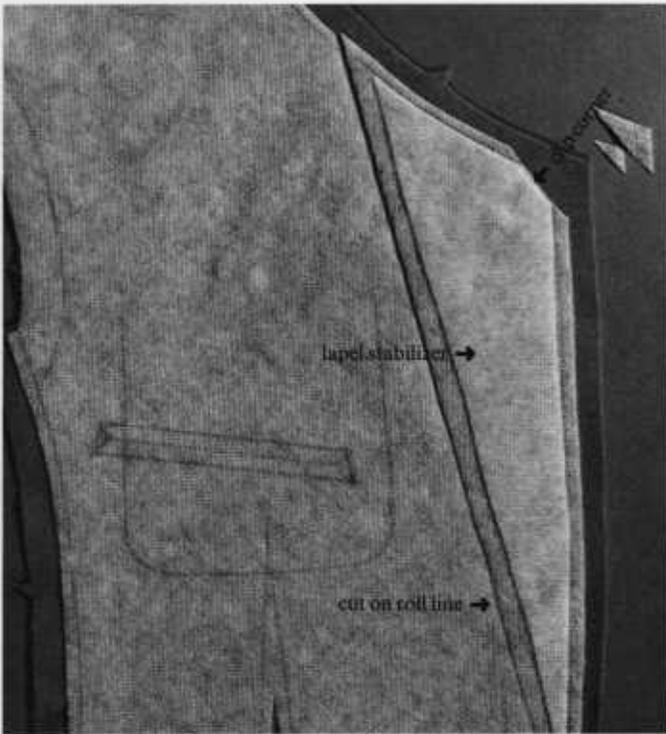

figure 16
- To stabilize the lapel of loosely woven, thick, or stiff fashion fabrics, make a pattern by tracing the lapel area. Cut a piece of fusible interfacing from the pattern and trim $3/4"$ (1.9 cm) from the outer edge and neck edge, and $1/8"$ (3 mm) from the roll line. Trim off the corners (*figure 16*).